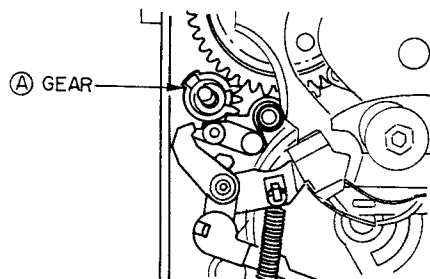

Fig.3-39
14. Reassemble in the reverse order for installation. When reinstalling the REGULATOR ARM and TENSION ARM, take care not to change the timing of the A GEAR (refer to Fig.3-39).